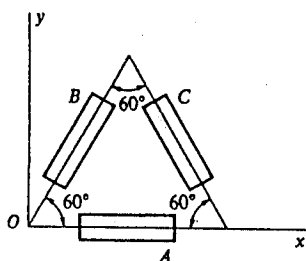

Figure 5.
- (20%) 5. A 60° strain rosette consists of three electrical-resistance strain gauges arranged as shown in Figure 5. Gauges A, B and C measure the normal strains ϵ_a, ϵ_b and ϵ_c in the direction of the x-axis and two inclined directions shown, respectively. Obtain the equations for the strains ϵ_x, ϵ_y and r_{xy} associated with the x y axes.